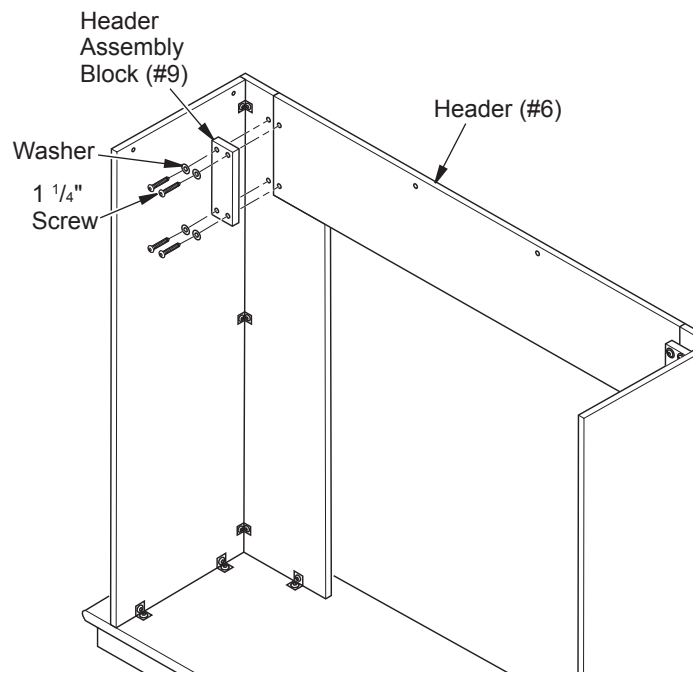

Figure 3 - Attaching Header
1. Start two 1 1/4" screws with washers through header assembly block (#9) into threaded inserts on right side of mantel. Repeat for left side (see Figure 3).
2. With arrow pointing up, place header (#6) into position on top of leg assemblies and against header assembly block (#9) (see Figure 3). Start two 1 1/4" screws with washers through header assembly blocks (#9) into threaded inserts in header. Hold header in proper alignment with leg assemblies and tighten, leaving screws slightly loose.